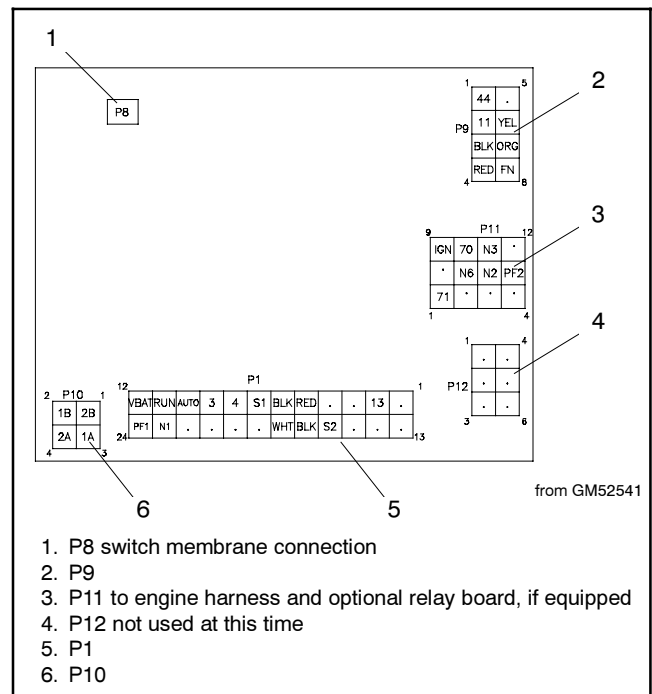

Figure 4-19 Controller Logic Board Connections
7. Note the connections on the logic board, and then disconnect. See Figure 4-19.